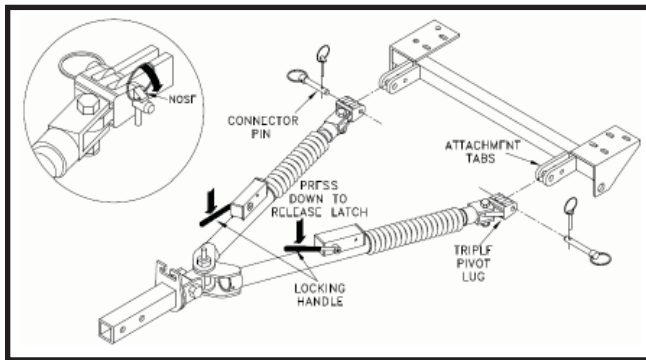

Figure 5
3. Partially extend one leg. The legs are held in with an internal "soft" latch. Pulling out on the leg will disengage this latch. Place the triple lug between the attachment tabs on the baseplate, and secure with the 1/2 pin. See Figure 5. Be sure to place the 1/2" pin is installed **correctly** through the attachment tab with the nose towards middle of the baseplate. See Figure 5. Repeat for both legs.
2. Disengage the leg latches by pushing down on the locking handles. (Figure 5) Remove the quick pins and 1/2 pins attaching the triple lugs to the attachment tabs. You may need to tap the 1/2 pins out if there is still pressure on them. Compress both legs completely until they lock in place.